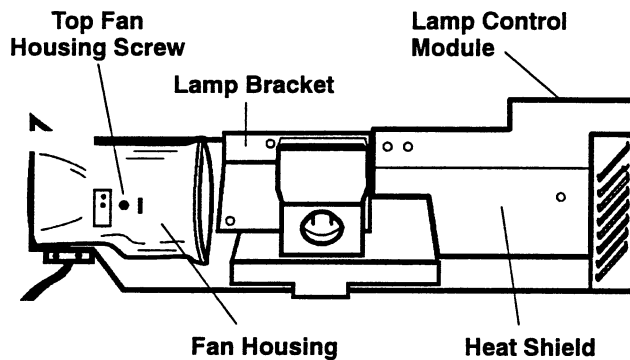

Figure 5-21. Lamp/Fan Assembly Removed
5. Remove the Top Fan Housing by removing the Screw. Figure 5-21.
2. Remove the top fan housing screw. Figure 5-21.
3. Remove the screws holding the heat shield and lamp bracket in place. Figure 5-21.
3. Remove the top fan housing screw. Figure 5-21.
4. Remove screws securing the heat shield, lamp bracket & fan housing to the front projector panel. Figure 5-21.
4. Remove the screws securing the heat shield, lamp bracket & fan housing to the front projector panel. Figure 5-21.
2. Remove three screws holding heat shield in place. Figure 5-21.
3. Remove top fan housing. Figure 5-21.
5. Remove two remaining screws holding the lamp bracket. Figure 5-21.